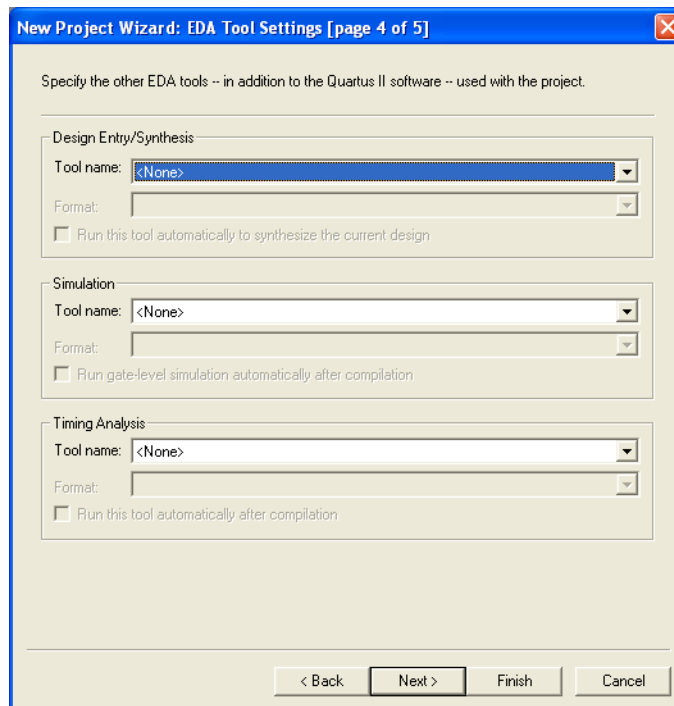

Figure 8. Other EDA tools can be specified.
- We have to specify the type of device in which the designed circuit will be implemented. Choose Cyclone™ II as the target device family. We can let Quartus II software select a specific device in the family, or we can choose the device explicitly. We will take the latter approach. From the list of available devices, choose the device called EP2C35F672C6 which is the FPGA used on Altera’s DE2 board. Press Next, which opens the window in Figure 8.